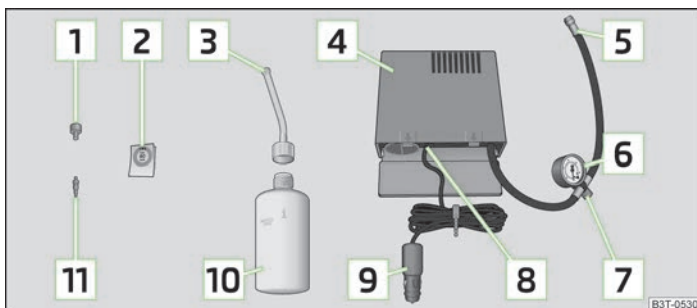

Fig. 177 Components of the breakdown kit
- Stick the sticker **2** **» Fig. 177** on page 201 on the dash panel in view of the driver.
- Forcefully shake the tyre inflator bottle **10** **» Fig. 177** on page 201 several times.
- Screw the tyre inflation hose [5] » Fig. 177 on page 201 of the firm compressor firmly onto the tyre valve.